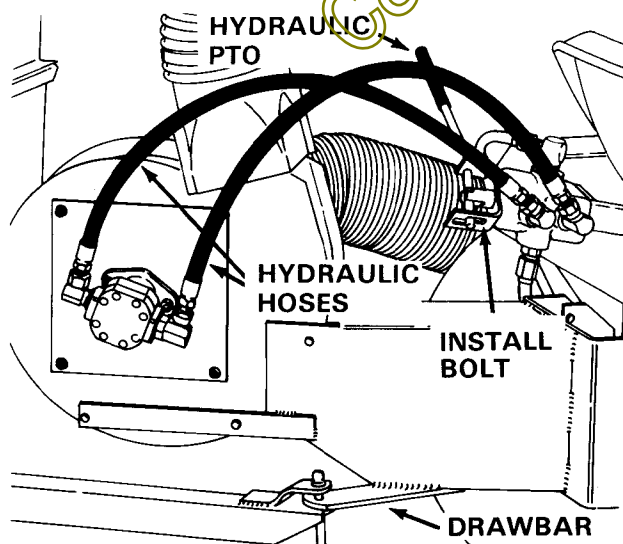

FIGURE 16 Hose connection shown for standard PTO Valve.
2. Connect the hydraulic hoses as shown in Figure 16.
If the hydraulic PTO lever has been changed to operate a Model J32, K32, L32, or M32 Wood Splitter, the hoses must be connected the OPPOSITE of that shown in Figure 16.